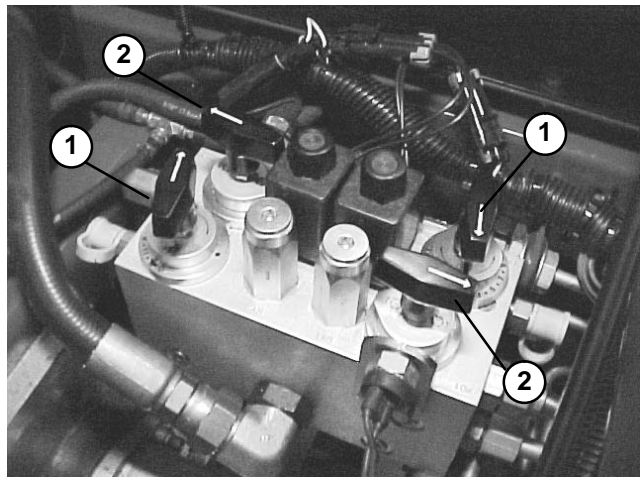

Figure 22
3. Locate the reel speed selector knobs and backlap knobs (Fig. 22). Rotate the desired backlap knob(s) to the backlap position and the desired reel speed selector knob(s) to position "1."